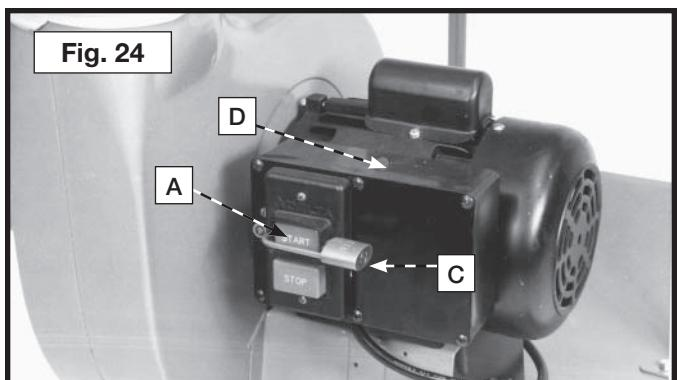

Fig. 24
IMPORTANT: When the machine is not in use, the switch should be locked in the "OFF" position to prevent unauthorized use, using a padlock (C) Fig. 24 with a 3/16" (4.8 mm) diameter shackle.